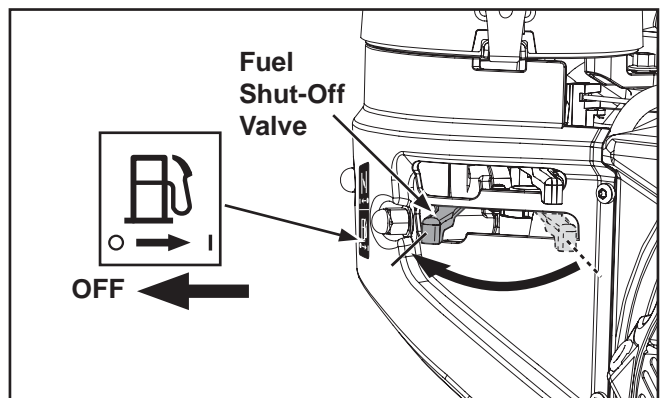

Figure 13. "Off" Position of Fuel Shut-Off Valve.
4. Close the fuel shut-off valve. See Figure 13.